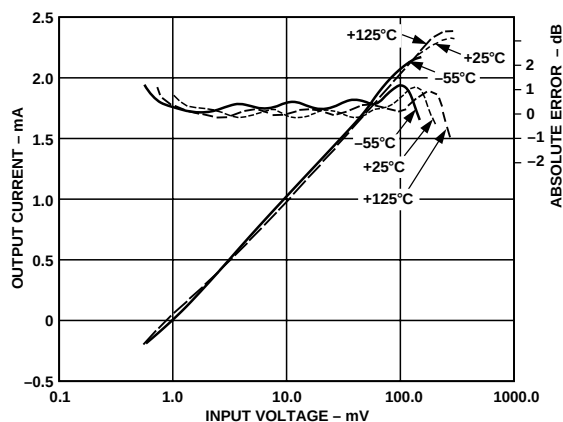

Figure 18. Logarithmic Output and Absolute Error vs. DC or Square Wave Input at $T_A = -55^\circ\text{C}$, $+25^\circ\text{C}$, Input Direct to Pins 1 and 20
The logarithmic function of the AD640 is absolutely calibrated to within ± 0.3 dB (or ± 15 μA) for 2 kHz square-wave inputs of ± 1 mV to ± 100 mV, and to within ± 1 dB between ± 750 μV and ± 200 mV. Figure 18 is a typical plot of the dc transfer function, showing the outputs at temperatures of -55°C , $+25^\circ\text{C}$ and $+125^\circ\text{C}$. While the slope and intercept are seen to be little affected by temperature, there is a lateral shift in the endpoints of the “linear” region of the transfer function, which reduces the effective dynamic range. The cause of this shift is explained in Fundamentals of Logarithmic Conversion section.
In applications where the signal amplitude is sufficient, the on-chip attenuator should be used because it provides a temperature independent dynamic range (compare Figures 18 and 19). Figure 26 shows this attenuator in more detail. R1 is a thin-film resistor of nominally 270 Ω and low temperature coefficient (TC). It is trimmed to calibrate the intercept to 10 mV dc (or -24 dBm for sinusoidal inputs), that is, to an attenuation of nominally 20 dBs at 27°C. R2 has a nominal value of 30 Ω and has a high positive TC, such that the overall attenuation factor is 0.33%/°C at 27°C. This results in a transmission factor that is proportional to absolute temperature, or PTAT. (See Intercept Stabilization for further explanation.) To improve the accuracy of the attenuator, the ATN COM nodes are bonded to both Pin 3 and Pin 4. These should be connected directly to the “SIG-